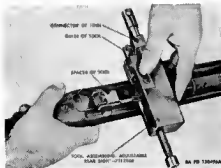

Figure 69. Rear sight assembling tool with spacer.
b. Place adjustable rear sight assembling tool 7312068 on the receiver with the tip of the tool riding on the operating slide guideway in the receiver. If the sight is of the stamped type, insert spacer (Fig. 69) (hanging at end of chain on tool) in place to prevent distortion of sight base wings. With the right hand jock screw retracted to the
7312088 in place for reinforcing the side wings of sight (Fig. 69).